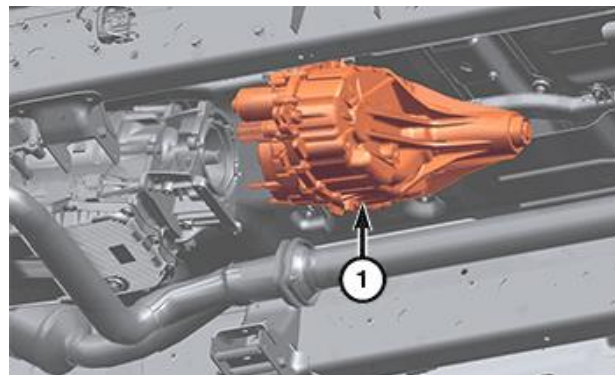

Figure 23 – Transfer Case
- 29. Remove the transfer case (1) from the transmission (Figure 23).
4. Install the **NEW** transfer case (1) to the transmission (Figure 23).